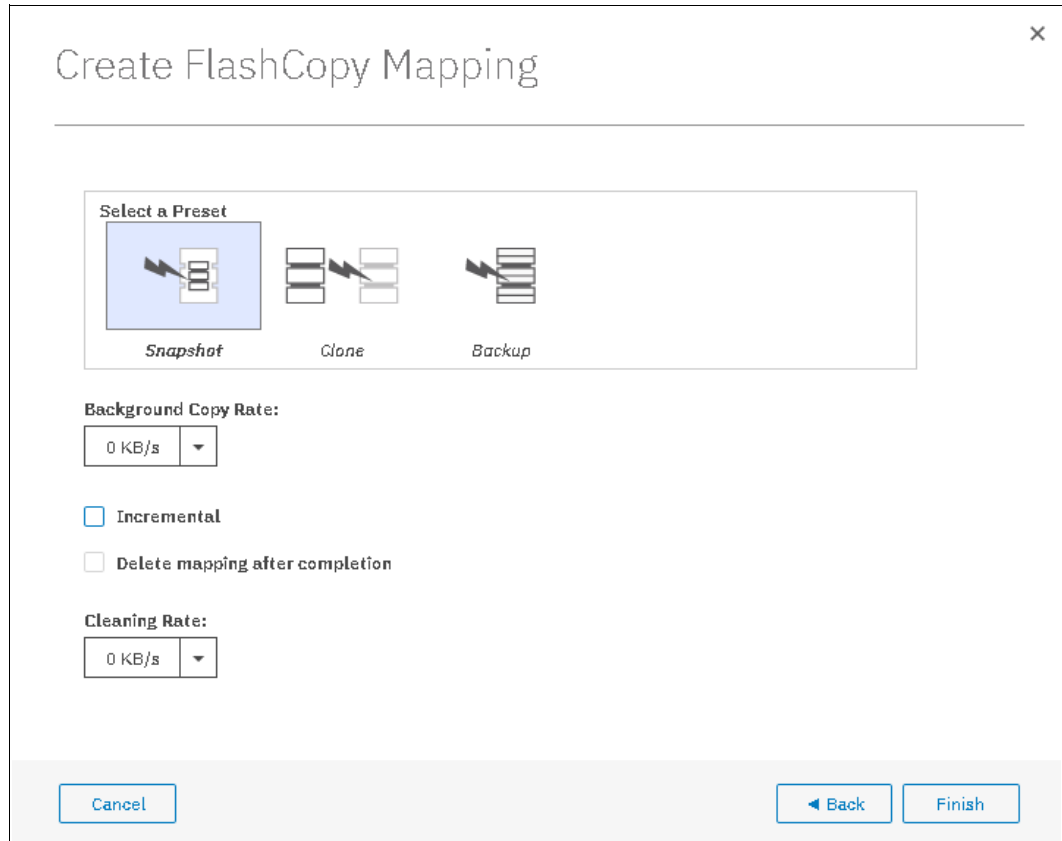

Figure 10-40 Create FlashCopy Mapping window
7. In the next window, you must select one FlashCopy preset along with their customization options. The GUI provides the following presets to simplify common FlashCopy operations, as shown in Figure 10-40 on page 510: